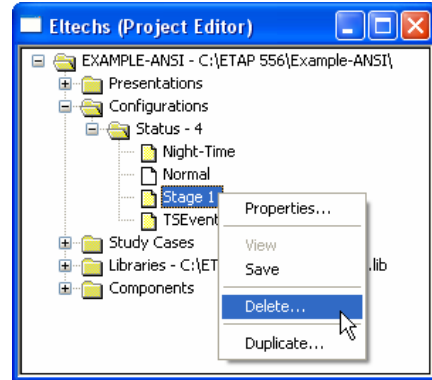

Fig. 10
- (c) Right-click the name of the configuration you wish to delete then click on “Delete...” pop-up command. See Fig. 10.